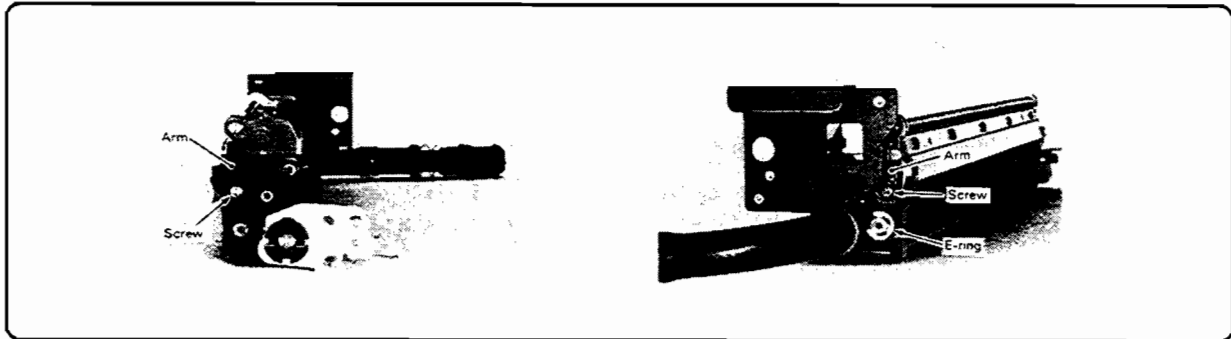

Figure 6-73. Cleaning Station Rear Arm and E-Ring Removal
5. Remove the screw and detach the rear hanger arm (Figure 6-73).
6. Remove the e-ring and screw and detach the front arm (Figure 6-73).